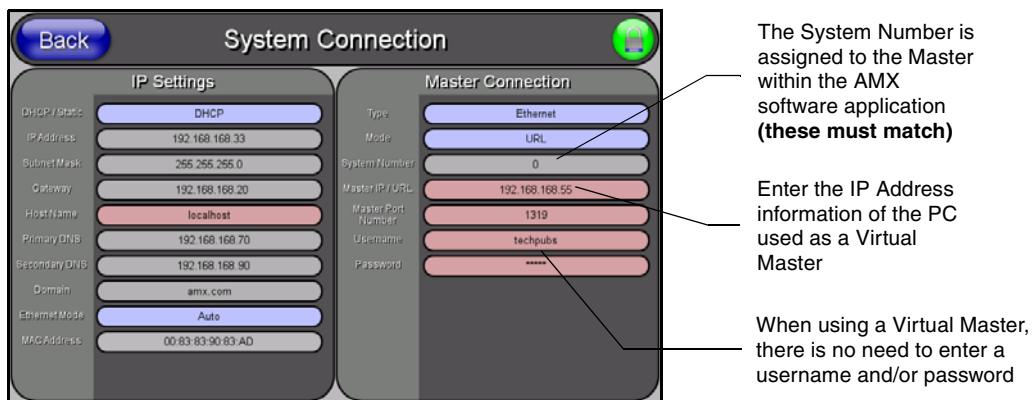

FIG. 41 Sample System Connection page (for Virtual Master communication)
13. Select **Protected Setup > System Connection** (located on the lower-left) to open the System Connection page (FIG. 41).
1. Press the blue *Type* field (*from the Master Connection section*) until the choice cycles to the word **Ethernet** (FIG. 41). Refer to the *System Settings Page* section on page 74 for more information about the fields on this page.